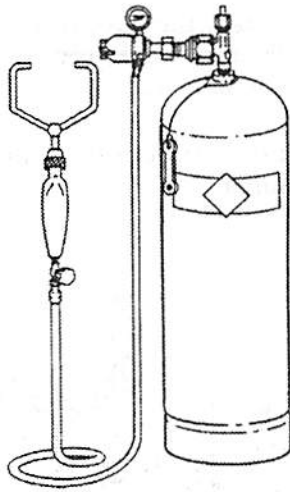

FIGURE 8
•You should have a single fuel tank (fig. 8) of acetylene gas for your torch. An acetylene torch will produce just the right amount of heat to make a tightly sealed joint.